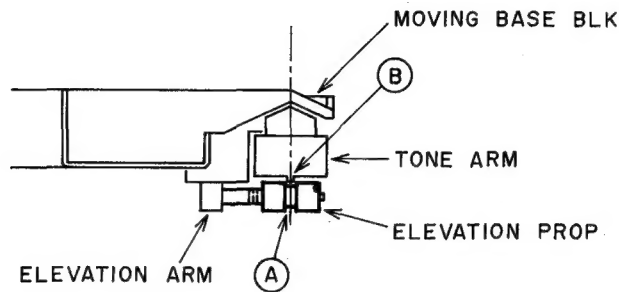

Fig. 5-1
- 2) Hold the Tone Arm with the Moving Base Block and separate the Elevation Prop from the Tone Arm. Then, bring the Elevation prop close to the Tone Arm, and adjust the Elevation prop close to the Tone Arm, and adjust the Elevation Prop with a flat type screw-driver to the place where the position of the notch (A) on the Elevation Prop coincides with the projection part (B) on the Tone Arm as shown in Fig. 5-1.